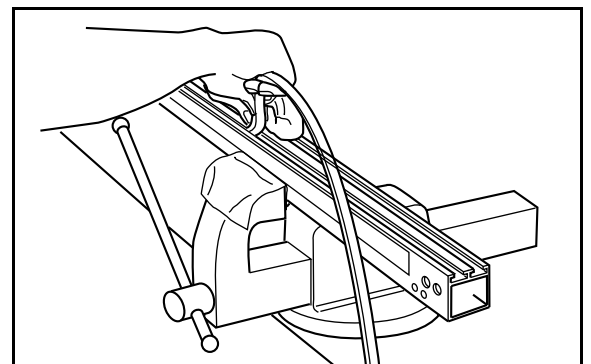

Fig. 33 Place silicon rubber/seal ledge
- 10 Make sure the spring and pin are properly positioned and place a new silicon rubber inside the aluminium bar without stretching it. Start at the end of the spring and finish at the end of the pin. See Fig. 33.